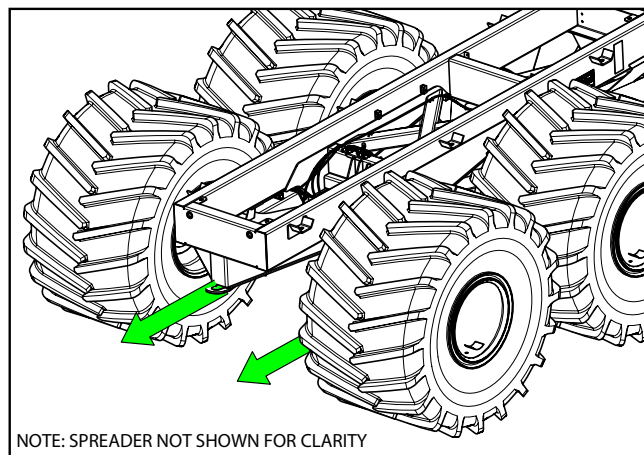

Figure 5 - Rear Pulling Lugs
3. Hook appropriately rated chain to both the left and right hand rear pulling lugs as shown in Figure 5.